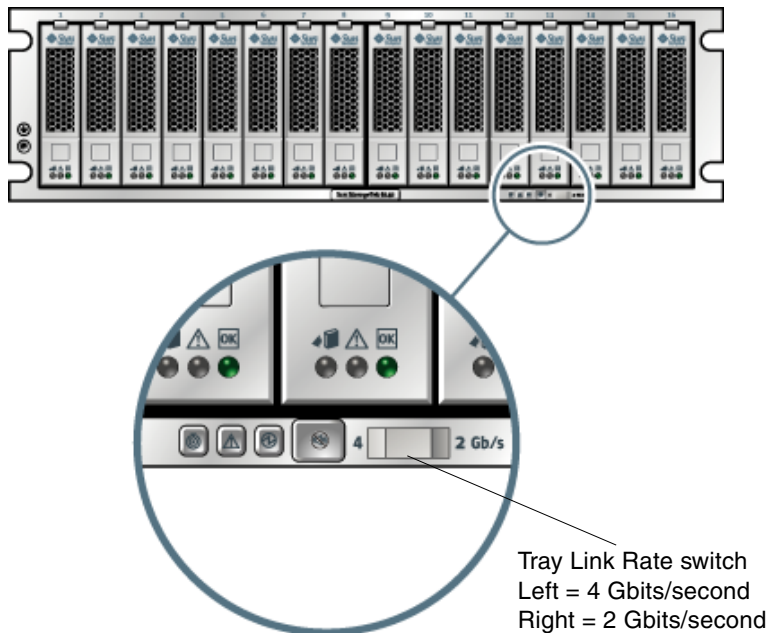

FIGURE 4-1 Tray Link Rate Switch
1. **Locate the Tray Link Rate switch at the lower right front of the tray** (FIGURE 4-1).